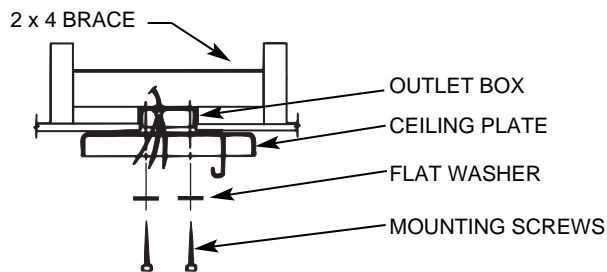

FIGURE 4B
B. Thread the lead wires through the opening in the ceiling plate and install the ceiling plate to the 2 x 4 brace which supports the outlet box. Use (2) #10 woodscrews 3" long and (2) flatwashers for mounting. Drill (2) pilot holes for the mounting screws $\frac{3}{64}$ " diameter. See Figure 4B.